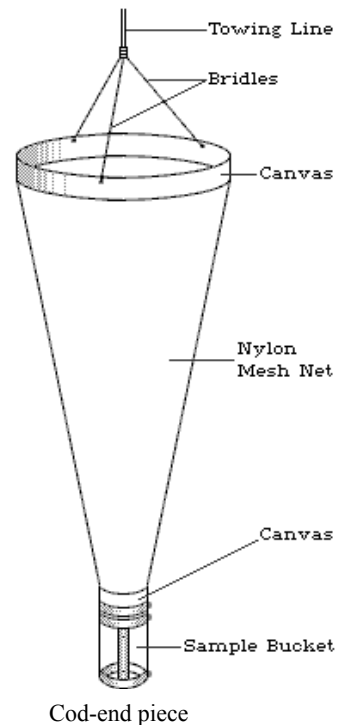

Figure 2: Simple conical plankton net
- Plankton net: Simple, conical plankton-tow net, 64 µm pore size, 0.20 m and larger diameter net opening, removable, weighted cod-end piece) (Figure 2). A 64 µm pore size, 0.20 m diameter net opening Plankton net is included in CLI's Veliger Sample Collection Kit. Larger diameter nets are also available, and reduce the tow distance.